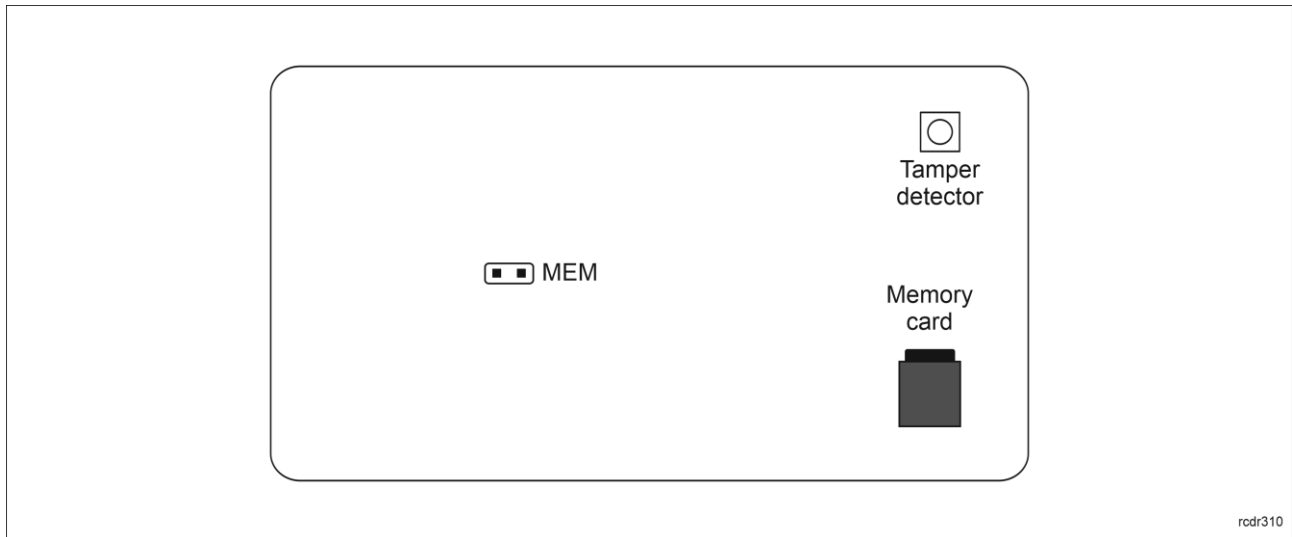

Fig. 6 Internal side of the front panel
Moreover, default functions key icons, splash screen and screensaver can be replaced using device memory card. Four new icons must be copied to ICONS folder on memory card (fig. 6) and they must be named as icon\_001.bmp, icon\_002.bmp, icon\_003.bmp and icon\_004.bmp. Splash screen file in the same folder must be named as icon\_000.bmp. Screensaver graphics must be named as scrnsvr.bmp and it must be copied to the main folder of memory card. Icons, splash screen and screen saver must in bmp format (without alpha channel) and with 24bit colour depth (can be saved with MS Paint). Icon size must be 60x60pixels while splash screen size and screen saver size must be 320x240pixels.
Built-in tamper (sabotage) detector enables detection of unauthorized opening of device's enclosure as well as detachment of the enclosure from wall. The detector is internally connected to the terminal's input. It does not require low level configuration (RogerVDM) or any additional installation arrangements, but it is essential to mount front panel in such way as the tamper detector (fig. 6) would firmly press the back panel. The detector requires high level configuration which consists in assignment of the function [133] *Tamper Toggle* on the level of a *Main Board* of a controller in VISO software navigation tree.
- Front panel should be attached in such way as the tamper detector (fig. 6) would firmly press the back panel.
In RACS 5 v2 system the terminal can be installed at site without previous configuration. According to AN006 application note, its address and other settings can be configured from VISO v2 management software and during such configuration the access to its service contact (fig. 6) is not required.
2. Remove jumper from MEM contacts (fig. 6) if it is placed there.
1. Place jumper on MEM contacts (fig. 6).